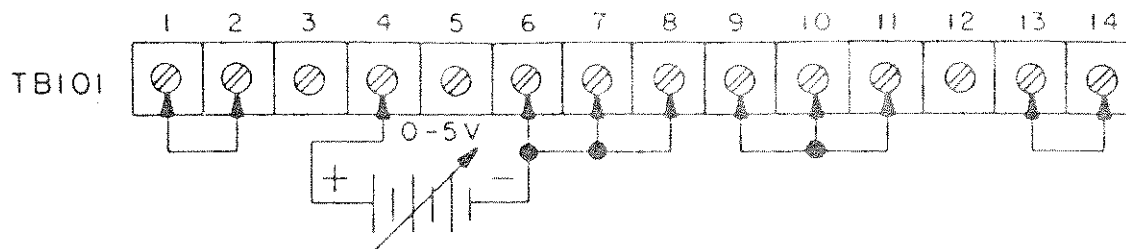

FIGURE 6. REMOTE PROGRAMMING BY EXTERNAL VOLTAGE, VOLTAGE MODE
3.3.5 REMOTE PROGRAMMING by EXTERNAL VOLTAGE (Figures 6 & 7)